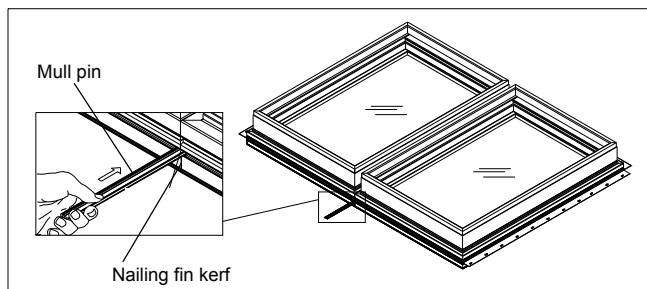

Figure 24
2. Slide aluminum mulling pin into nailing fin/drip cap kerf. Make sure mulling pin is recessed at least 1/4" on each end to allow for sealant placement and horizontal mulling pin application later. See figure 24.